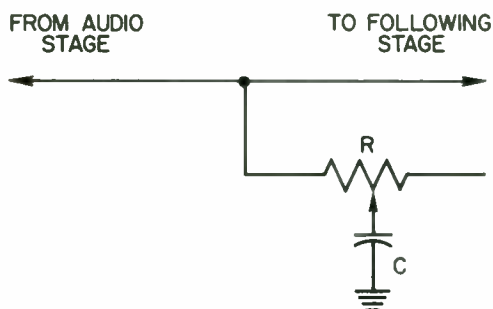

Figure 24 — Simple tone control.
In Figure 24, we see a simple bypass form of tone control. The capacitor (C) offers a low impedance path, to ground, for the higher frequencies. The pot (R) can be varied by the listener to provide more or less resistance to these high frequencies before they get to the capacitor, thus giving the operator some measure of control over the output tonal response.